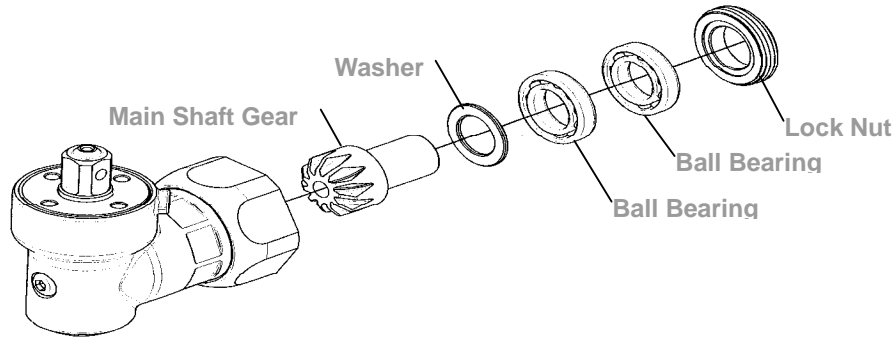

Fig.303
9.2 Assemble the parts in Fig. 303 one by one orderly into the angle housing. Then, fix the angle housing unit. Use the torque wrench and the appliance clockwise to tighten the lock nut of the main shaft gear. See Chart 48 in reference to the proper appliance selecting.
- Note: (1) Make sure to apply the grease on the gear.